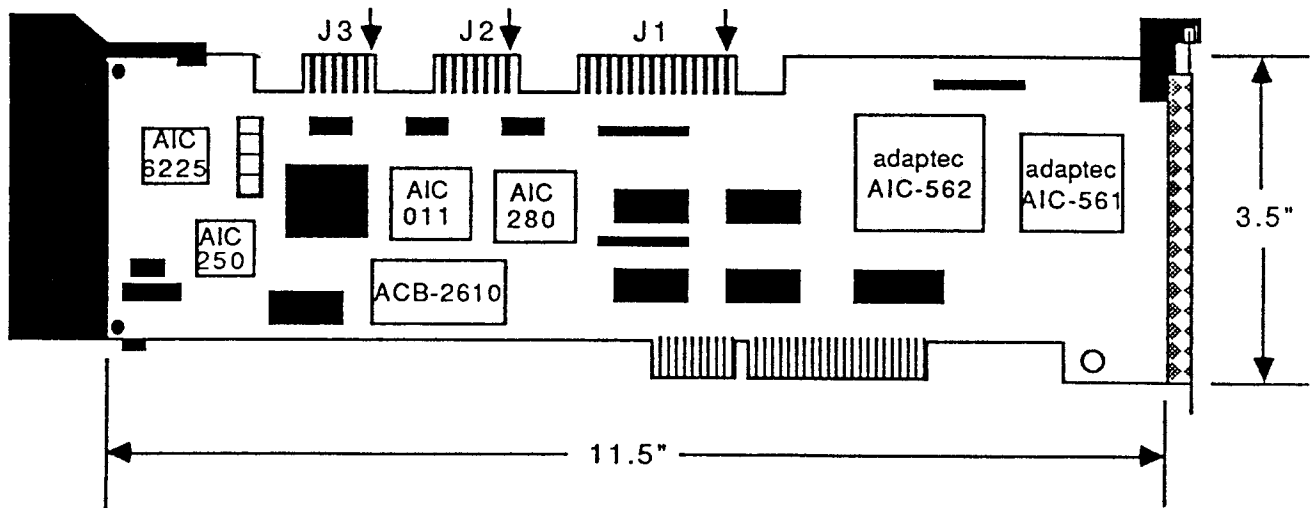

FIGURE 1-1 ACB-2610 Board Layout
1.3.1 Physical Dimensions: (refer to Figures 1-1 and 1-2)
The ACB-2610 has three cable connectors (J1, J2, & J3). Refer to Figure 1-1 found on page 1-5 for connector location and pin 1 orientation.